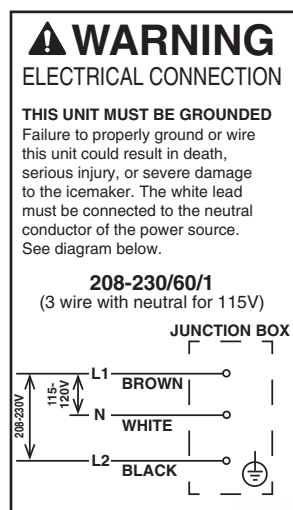

Fig. 10
- Remote condensing unit electrical connection must be made in accordance with the instructions on the "WARNING" tag provided with the pig tail leads in the remote condensing unit's power supply junction box. See Fig. 10.
- 1) Route the wire bundle between the icemaker and remote condensing unit. Use the wire bundle supplied with the remote condensing unit, or fabricate a wire bundle using wire of an appropriate gage and outdoor rating. Use the wiring label or Fig. 10 as a reference.